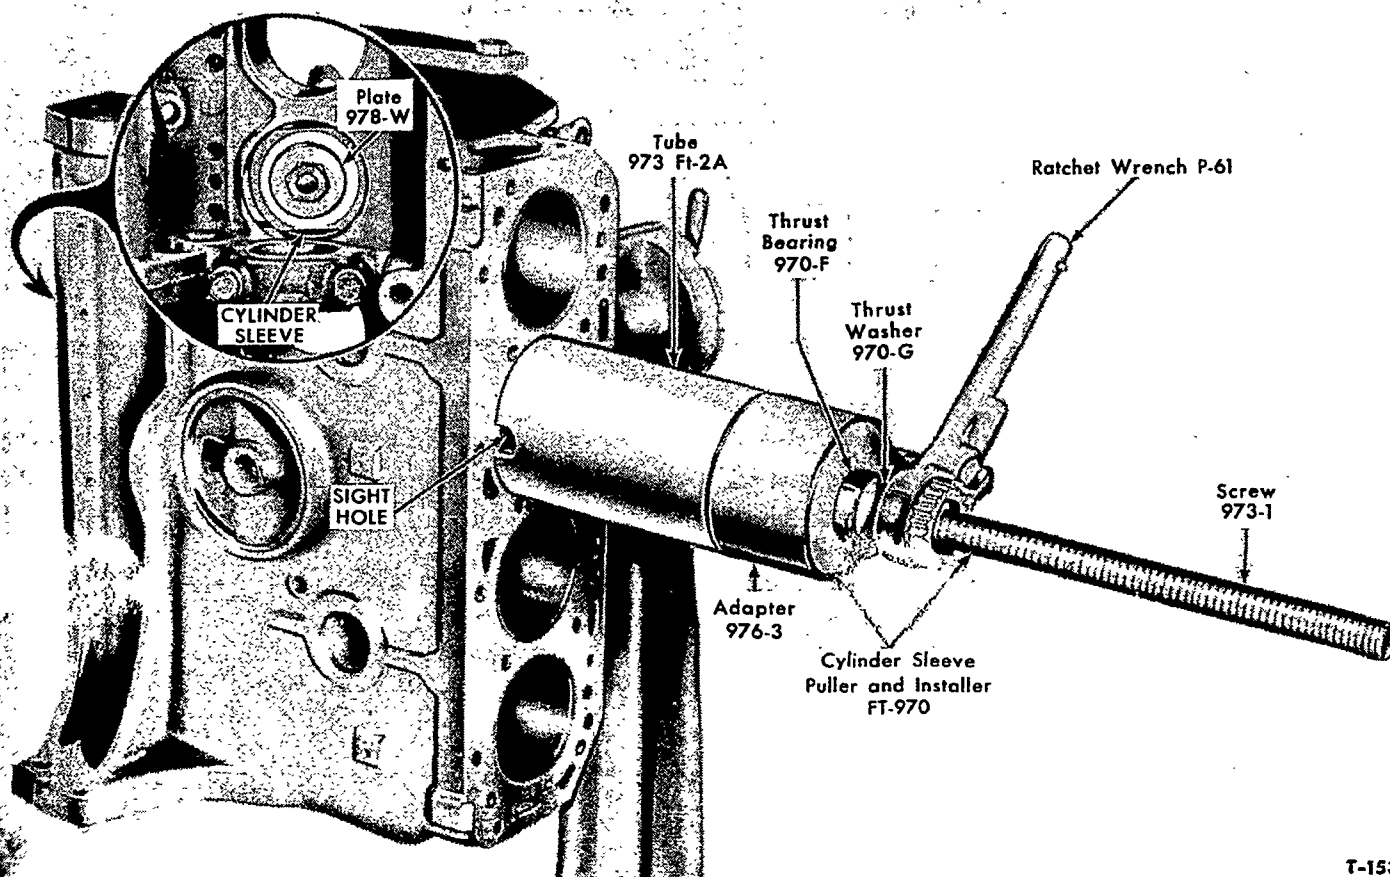

Figure 52—Removing Cylinder Sleeve
1. Install Cylinder Sleeve Puller FT-970 on the cylinder block as shown in Figure 52.